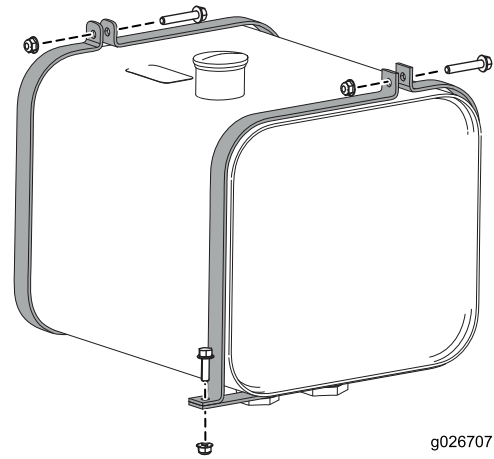

Figure 47
8. Loosen the hydraulic tank straps and remove the hydraulic tank from the machine (Figure 47).